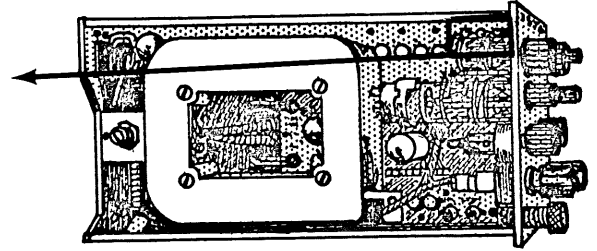

Figure 5-23
1. Adjust the A Preamp Sens, R1088 - See Figure 5-23, so the false baseline under the pulse is aligned with the true baseline which precedes and follows the pulse. See Figure 5-24.